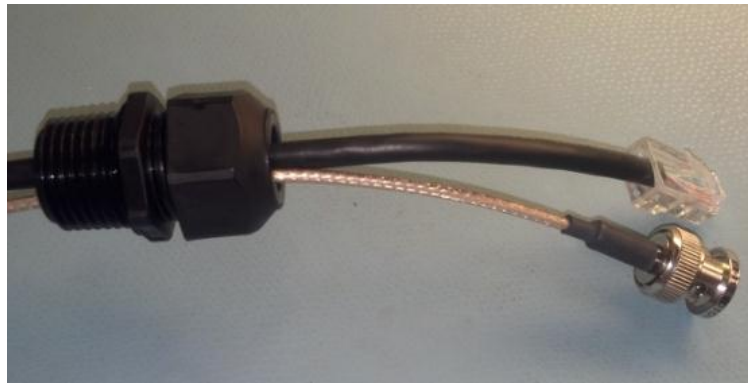

Figure 14: Tighten Gland Nut
4. Tighten the gland nut onto the gland housing. Leave about 8 cm of cable sticking out of the gland housing (see Figure 14).